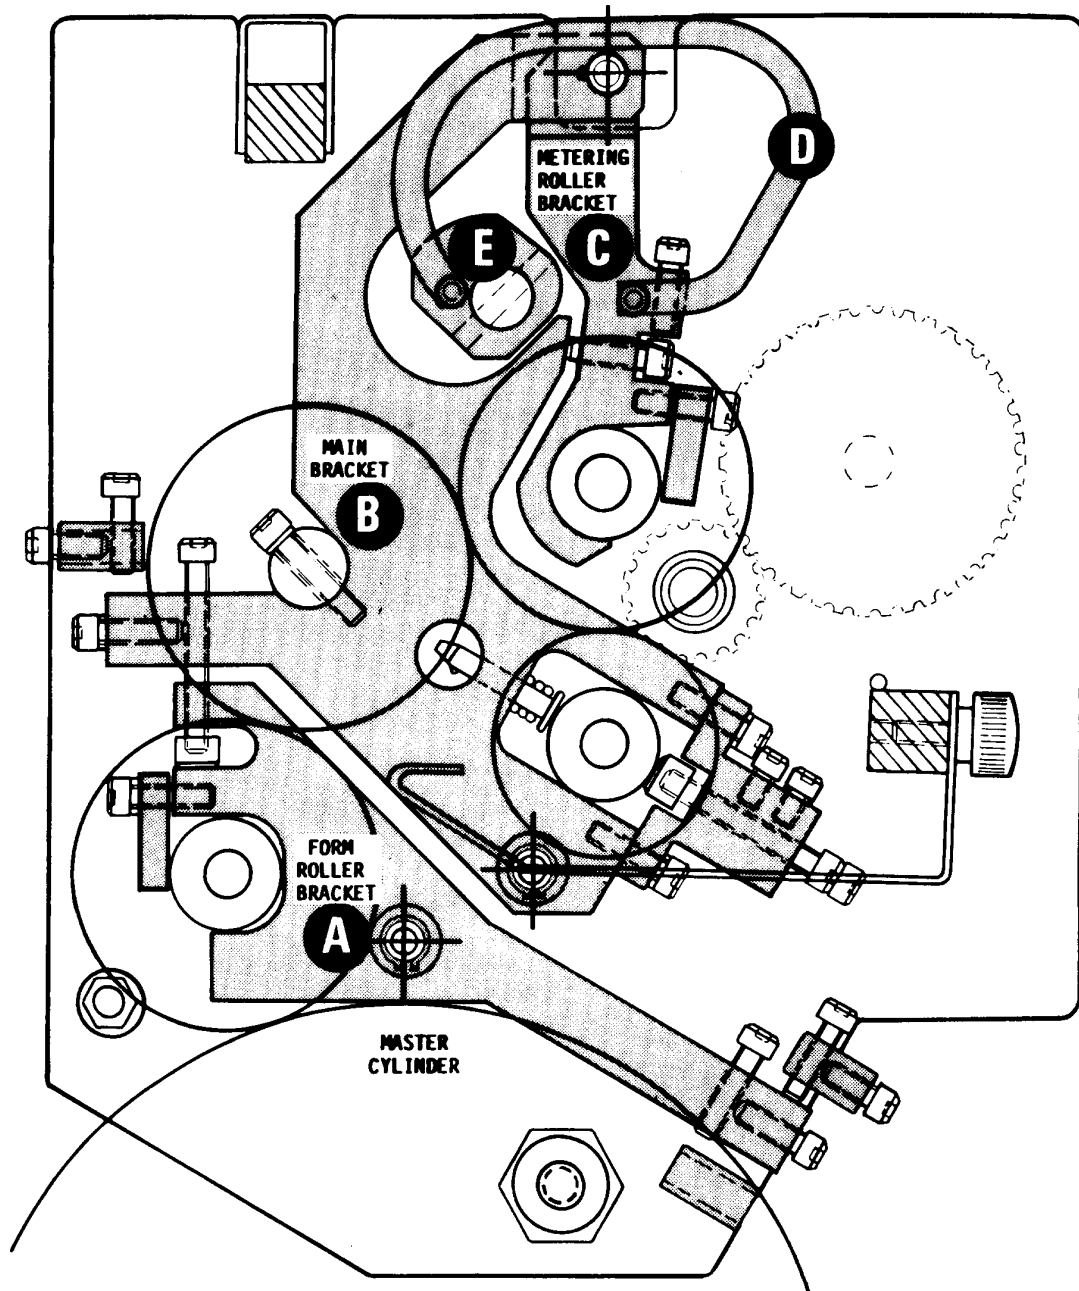

Figure 91 - Roller Brackets
To control roller pressures, adjust the form roller bracket (A), main bracket (B) and metering roller bracket (C) (see Figure 91). These brackets are located inside the dampener side frames. Spring (D) provides the force for pressure between the rollers. Cam (E) is connected to the dampener operating shaft and regulates the sequence of pressure applied to the rollers.